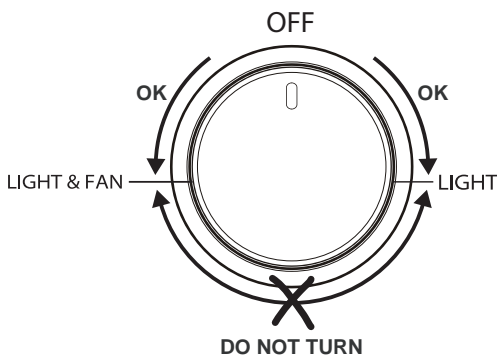

Fig. 3.2
The oven light and the fan motor are controlled by a switch knob on the control panel (fig. 3.2). To light up the oven lamp turn the knob counter-clockwise to LIGHT position.
- During ignition of the oven burner, the fan motor shall be switched off (light and fan control knob in “OFF” position – Fig. 3.2).
After lighting the oven burner switch on the fan motor by turning the LIGHT & FAN control knob (fig. 3.2) on "LIGHT & FAN" position.